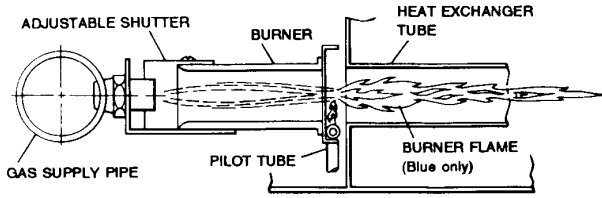

FIGURE 1 - MAIN BURNERS, PILOT TUBE, GAS MANIFOLD AND ADJUSTABLE SHUTTERS
- 9. If burning at the orifices, excessive yellow tipping, or excessive noise is observed during any phase of main burner operation, adjust the main burner air shutters (See Figure 1) to eliminate the problem(s).